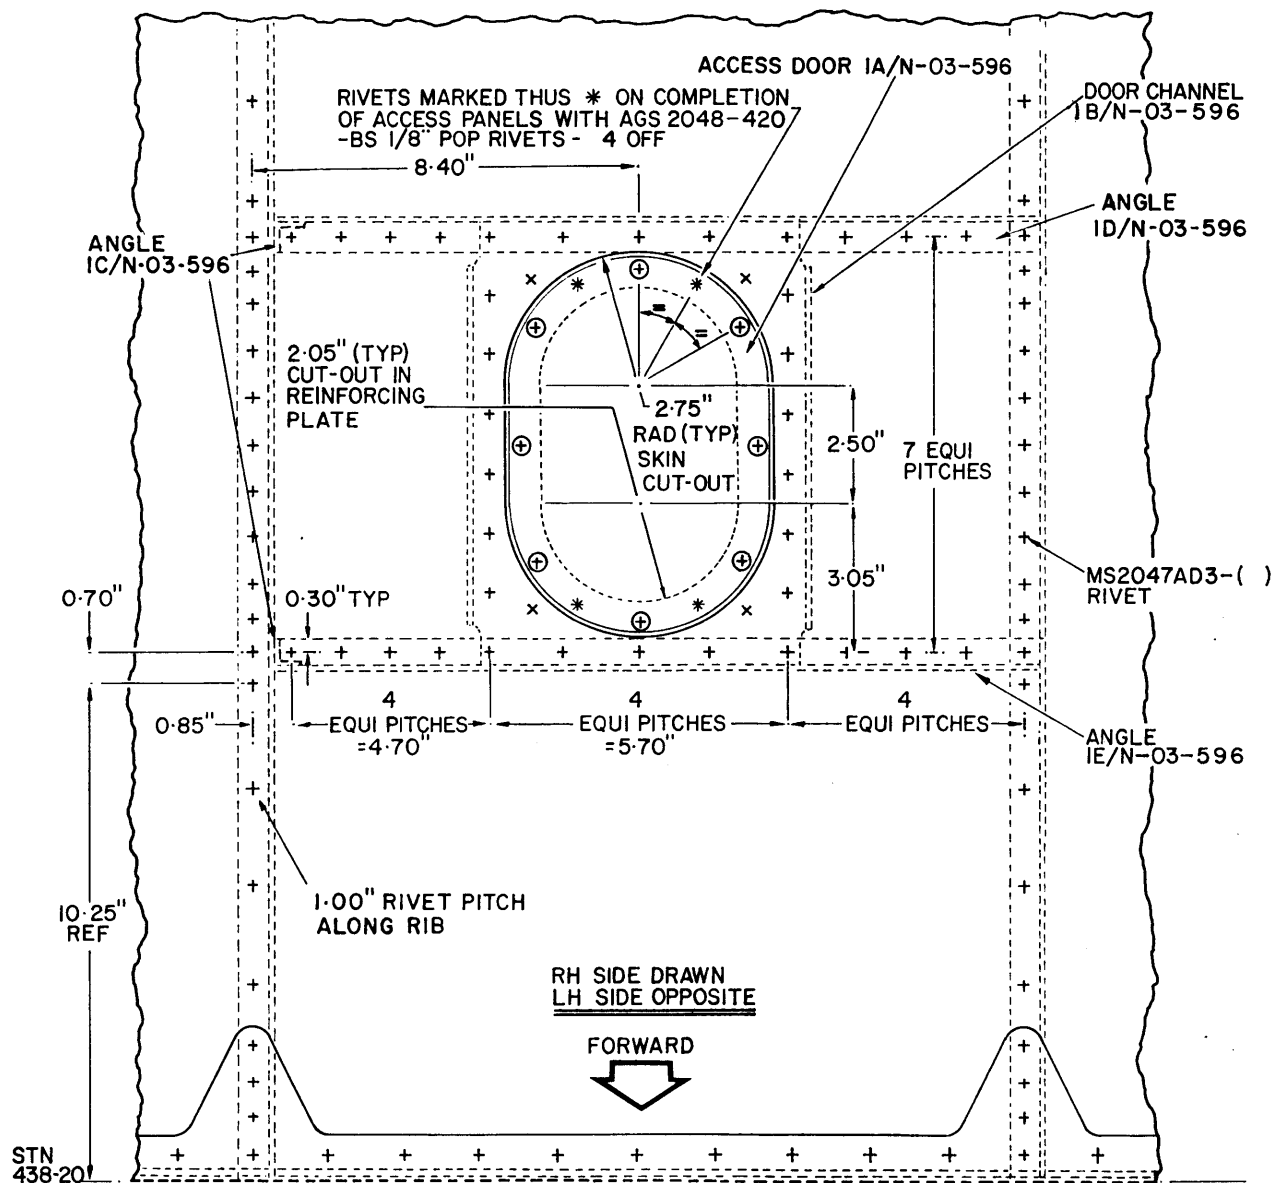

FIGURE 1
- A. (1) Remove the Horizontal Stabiliser as described in MM 55-20-00.
- (2) Install the six access panels in the tailplane top skin as shown in figure 1 and figure 2.
- (8) On completion of the reworks described, clean out the internal structure of tailplane of all foreign bodies (e.g. swarf, rivet tails, etc.), and fit access panel doors using PR 1221 or 1222 compound, or equivalent, to seal doors. Secure doors using eight MS24693-S272 screws and four AGS 2048-420BS rivets as shown as figure 1.
- (9) Balance Horizontal Stabiliser in accordance with Table 1 of this Service Bulletin.